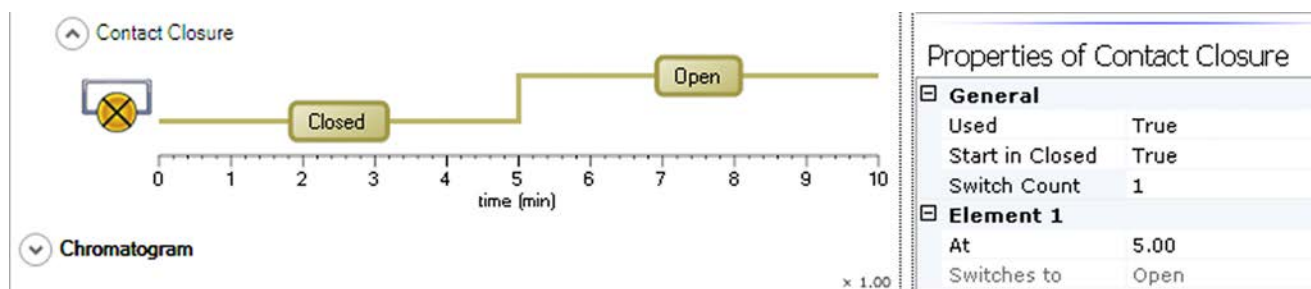

Figure 3-11. Contact closure
The Contact Closure item shows a graphic representation of the contact closure activities during the active acquisition. See Figure 3-11.
- Right-click in the pane to display the shortcut menu. Choose **Activate**. The gray color  changes to the green color . See Figure 3-11.